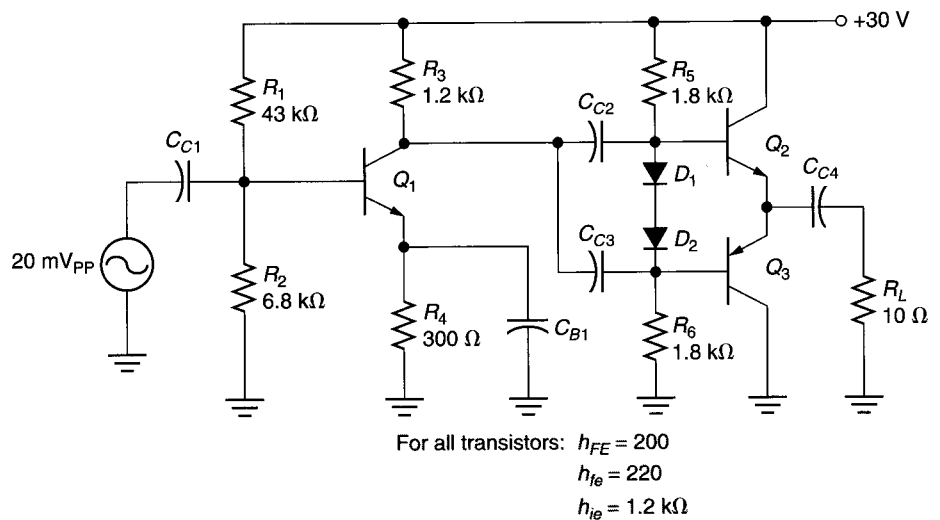

FIGURE 11.61
45. Calculate the values of  $A_{vT}$ ,  $A_{iT}$ , and  $A_{pT}$  for the two-stage amplifier in Figure 11.61.
46. Answer the following questions for the circuit in Figure 11.61. Use circuit calculations to explain your answers.
47. Transistor  $Q_2$  in Figure 11.61 is faulty. Can the 2N3904 be used in place of the transistor? Explain your answer using circuit calculations. The spec sheet for the 2N3904 is shown in Figure 6.28. (*Hint: The power-handling requirement of the circuit is the primary consideration in this problem.*)